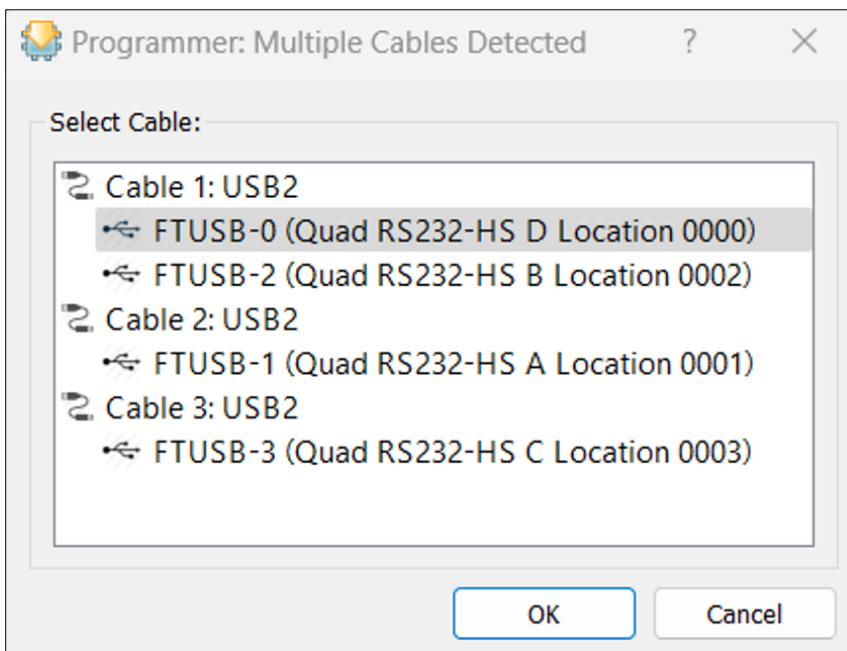

Figure 16.5. Port Selection for MachXO3D Programming
2. Open the Lattice Dimond programmer and select the cable port for MachXO3D programming (Figure 16.5).